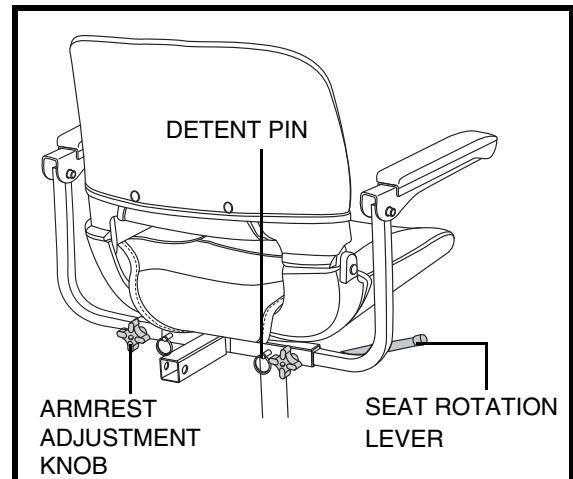

Figure 14. Seat Adjustments
1. Loosen the armrest adjustment knobs. See figure 14.